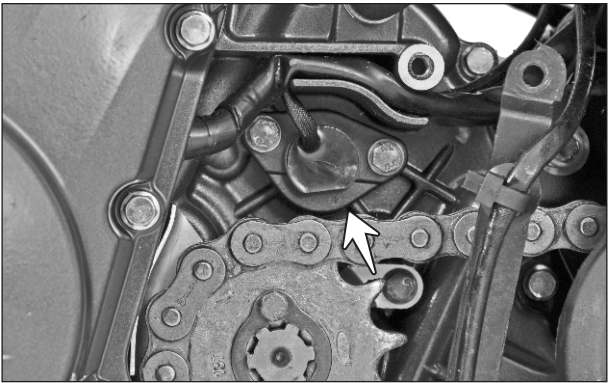

Fig. 5.28
- The gear position sensor is mounted on the crankcase assembly LH below the cover engine sprocket. (Fig. 5.28)
- Gear position sensor senses the exact position of the gear and generates the resistance accordingly. These resistances are sent to the digital speedometer and the TCI unit through a white green wire (WG). To measure the resistance level of gear position sensor at various position follow the procedure given below: